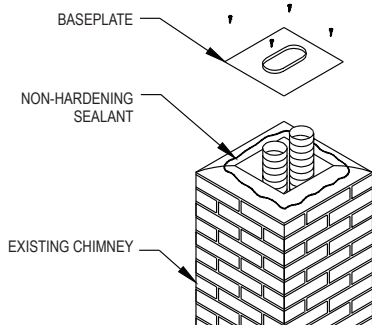

Figure 5
Step 6. At the top of the chimney, slide the Baseplate over the two ends of the Flex Liner and secure it to the surrounding masonry using masonry anchor bolts. Before installing the Baseplate, run a bead of non-hardening sealant between the Baseplate and the masonry to prevent moisture from entering the chimney. **(Figure 5)**